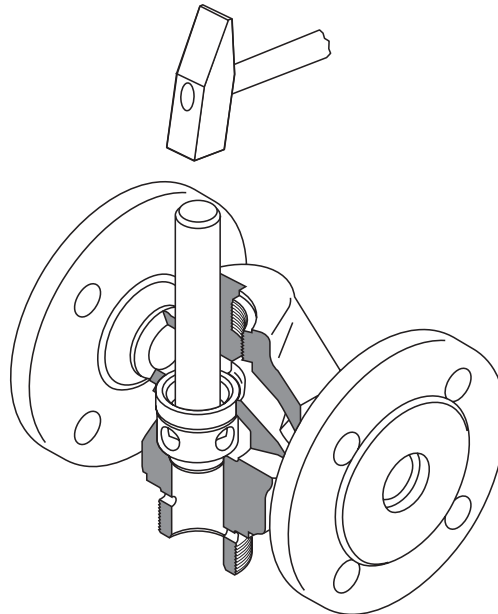

Fig. 8
16. Use punch made of CuZn to fix the valve seat in the valve body. **Fig. 8**